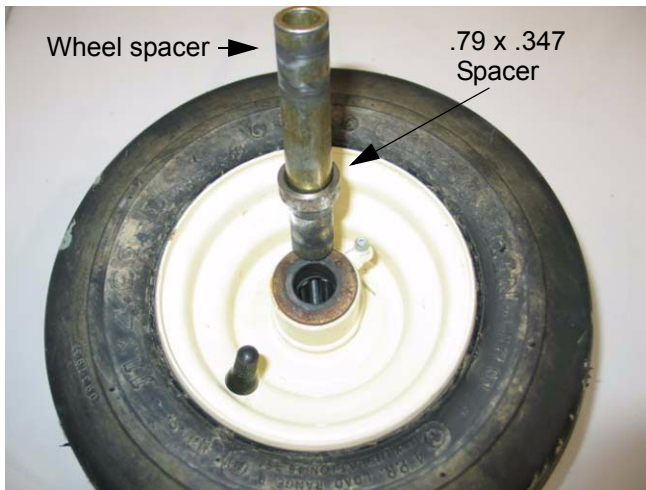

Figure 8.4
- 8.4. Remove center wheel spacer and inspect all spacers for damage. See Figure 8.4.